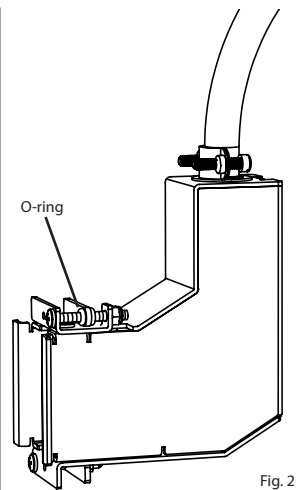

Fig. 2
8. Flip **Wing Tabs** inward so that the Minibox will fit into the drywall opening (Fig. 2).
11. Flip **Wing Tabs** inward so that the Minibox will fit into the drywall opening (Fig. 2).
12. Slide **O-rings** along **Mounting Screws** so that they are flush against the wing tabs (Fig. 2).